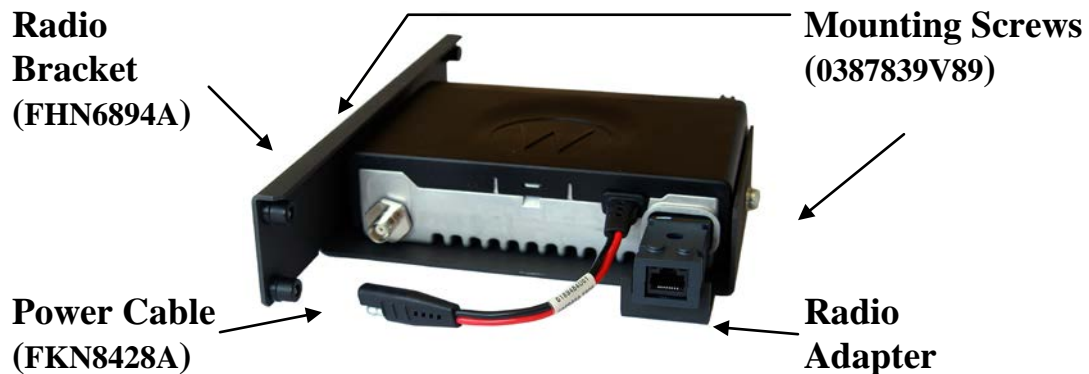
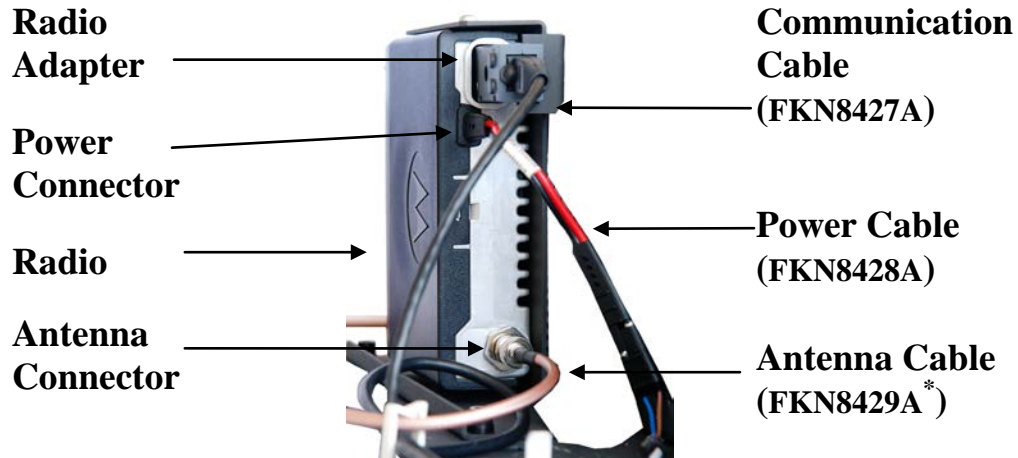
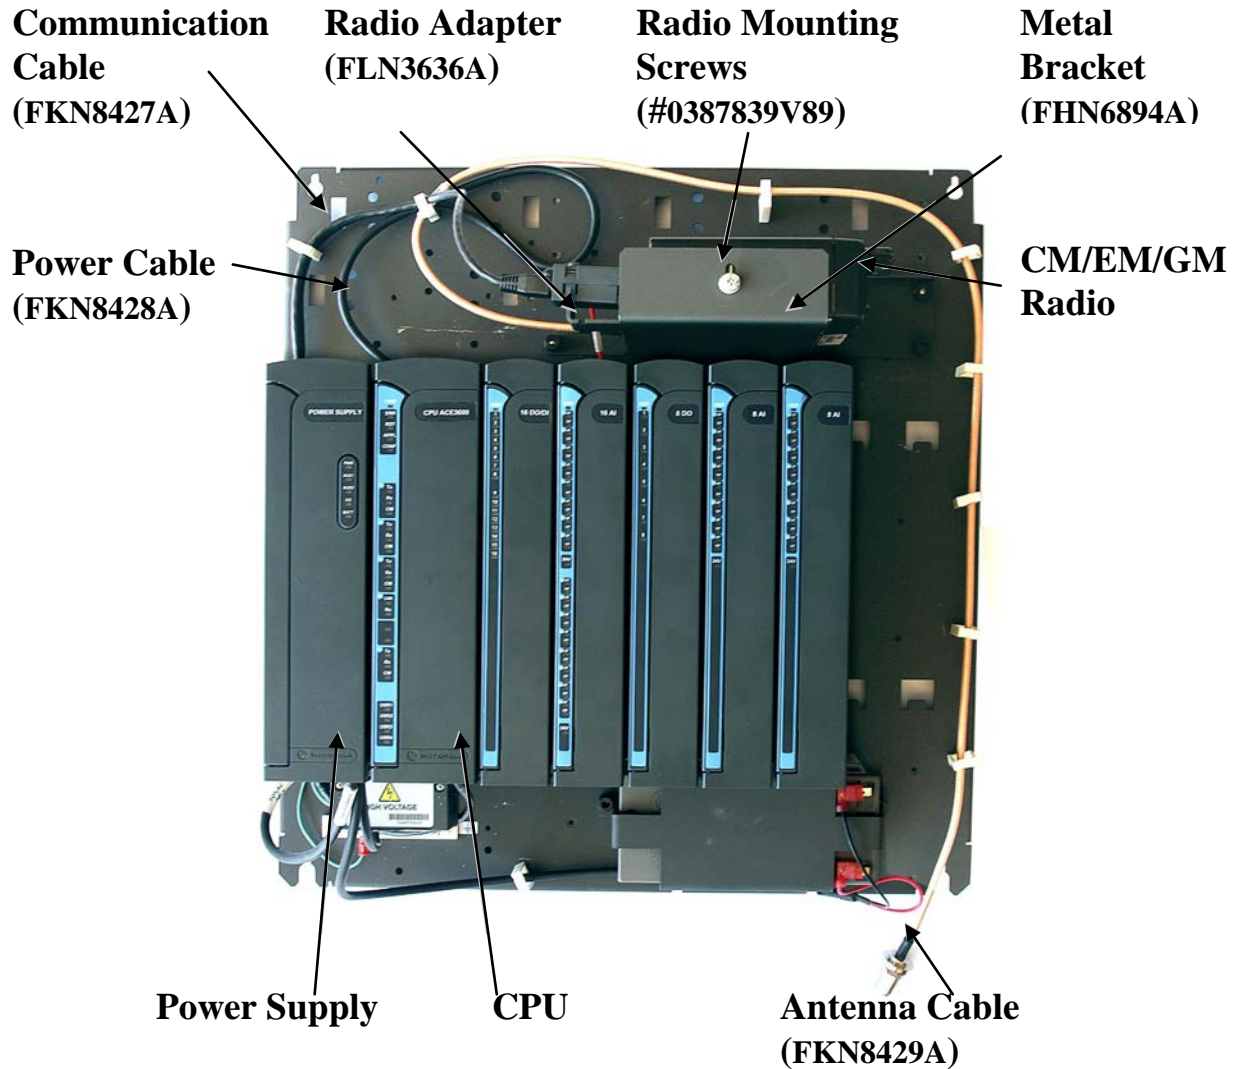

Figure 21-44 CM/EM/GM Radio, Adapter and Power Cable
Figure 21-45 CM/EM/GM Radio Cable Connections
Figure 21-46 CM/EM/GM Radio Installed on ACE3600 Chassis
2. Connect the 16-pin connector radio adapter (FLN3636A) to the accessory connector on the radio. (See Figure 21-44.)
3. Connect the power cable (FKN8428A) to the radio's power connector. (See Figure 21-44 and Figure 21-45.) Connect the other end of the power cable to the AUX1A or AUX1B connector on the ACE3600 RTU Power Supply unit. (See Figure 21-46.)
4. Connect the communication cable (FKN8427A) to the back of the radio adapter (FLN3636A) connector (10-pin RJ45 connector). (See Figure 21-45.) Place one Fair-Rite soft ferrite (#7683477X01 from the supplied ferrite kit FHN7007A) on the cable near the bottom of the CPU door, loop the cable one turn around it, and clamp the ferrite on the cable. Connect the other end of the communication cable to the plug-in port of the ACE3600 CPU.
5. Mount the CM/EM/GM radio onto the metal bracket (#0789422V45) using the two supplied radio mounting screws from kit FHN6894A, # 0387839V89 on the top and bottom of the radio. (See Figure 21-44, Figure 21-45 and Figure 21-46.)
6. Connect the antenna cable (FKN8429A*) to the antenna connector on the radio and to the opening on the bottom of the ACE3600 housing using the four supplied screws. (See Figure 21-45 and Figure 21-46.) Mount the complex (bracket and radio) on the RTU chassis above the CPU and I/O modules, using the four built-in screws. (See Figure 21-46.)